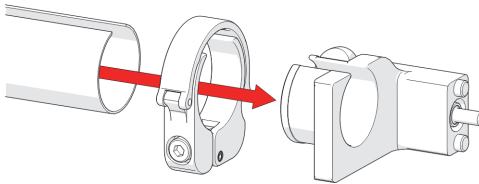

Figure 2-131 Slide tube around mount
2. Slide the clamp around the tube, and then slide the tube around the outside of the cable management mount (see Figure 2-131 on page 147).